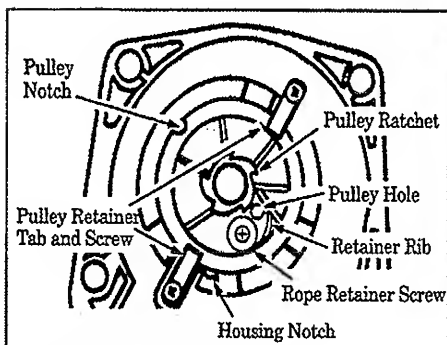

Figure 16
5. Remove rope retainer screw on the pulley (Figure 16) and remove the broken piece of rope, if any.
6. Grasp the pulley ratchet and wind the pulley clockwise until the pulley stops. Then, slowly unwind the pulley counterclockwise until the pulley notch is aligned with the pulley housing notch. Figure 16. Insert the hex wrench into the hole formed by the aligned notches. Figure 16.
11. Guide rope inside the pulley, then through pulley hole. Figure 16.